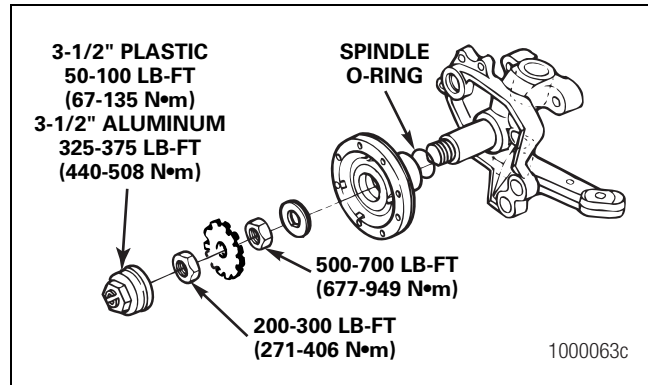

Figure 6.56
6. Slide a new O-ring, Meritor part number 5X-1301, onto the spindle. The O-ring must be positioned against the knuckle journal. Figure 6.56.
8. Install the inner "D" washer and inner wheel bearing nut onto the spindle stud. Tighten the inner wheel bearing nut to 500-700 lb-ft (678-949 N•m) while rotating the unitized wheel end a minimum of five rotations. Figure 6.56.